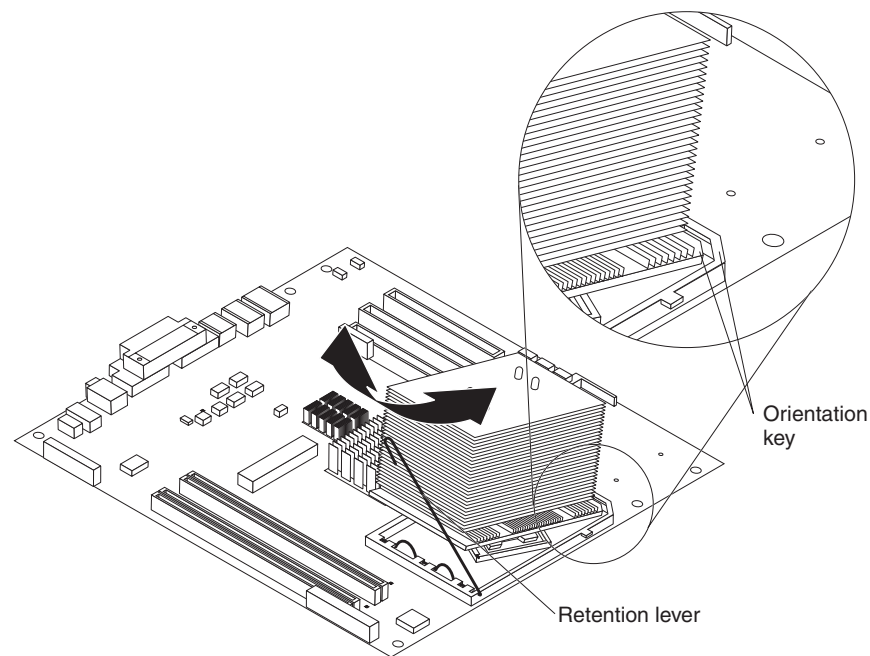

Figure 51. Installing the heat sink
4. Install the heat sink (see Figure 51):